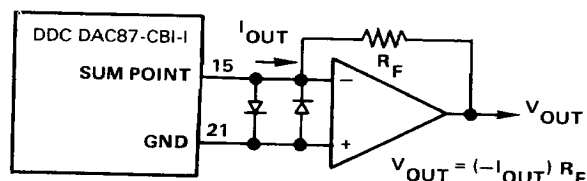

FIGURE 8. CONNECTIONS FOR EXTERNAL OP-AMP USING AN EXTERNAL FEEDBACK RESISTOR
3. External Op-Amp With External Feedback Resistor. For output voltage ranges greater than $\pm 10V$, an external feedback resistor must be used, as shown in Figure 8. External feedback resistors will generally give poorer gain accuracy over temperature. The internal resistors may be used in series with the external resistors to minimize this effect. When high voltage op-amps are used, diodes should be installed to protect the DDC DAC87 as indicated in Figure 8.